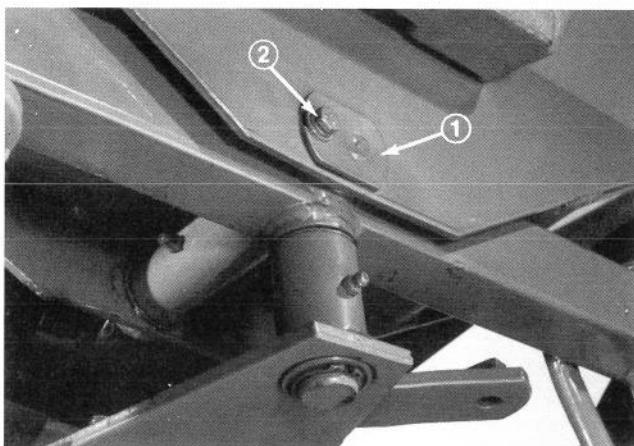
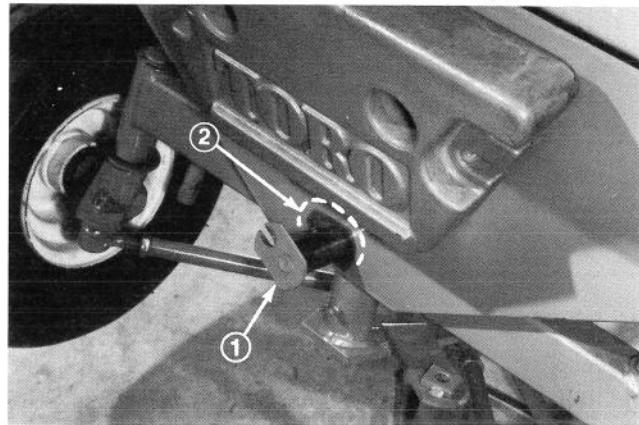

Figure 42
Figure 44
3. Remove capscrew, lockwasher and flatwasher holding outside of axle pin to chassis (Fig. 42).
9. Move rear axle into position at rear of machine. Mount axle between two sections of frame with axle pin and two thrust washers (Fig. 44). The thrust washers must be positioned at ends of the axle pivot tube and between both sections of the frame. Secure axle pin in place with capscrew, lockwasher and flatwasher (Fig. 42).
12. Move rear axle into position at rear of machine. Mount axle between two sections of frame with axle pin and two thrust washers (Fig. 44). The thrust washers must be positioned at ends of the axle pivot tube and between both sections of the frame. Secure axle pin in place with capscrew and lock-washer (Fig. 42).